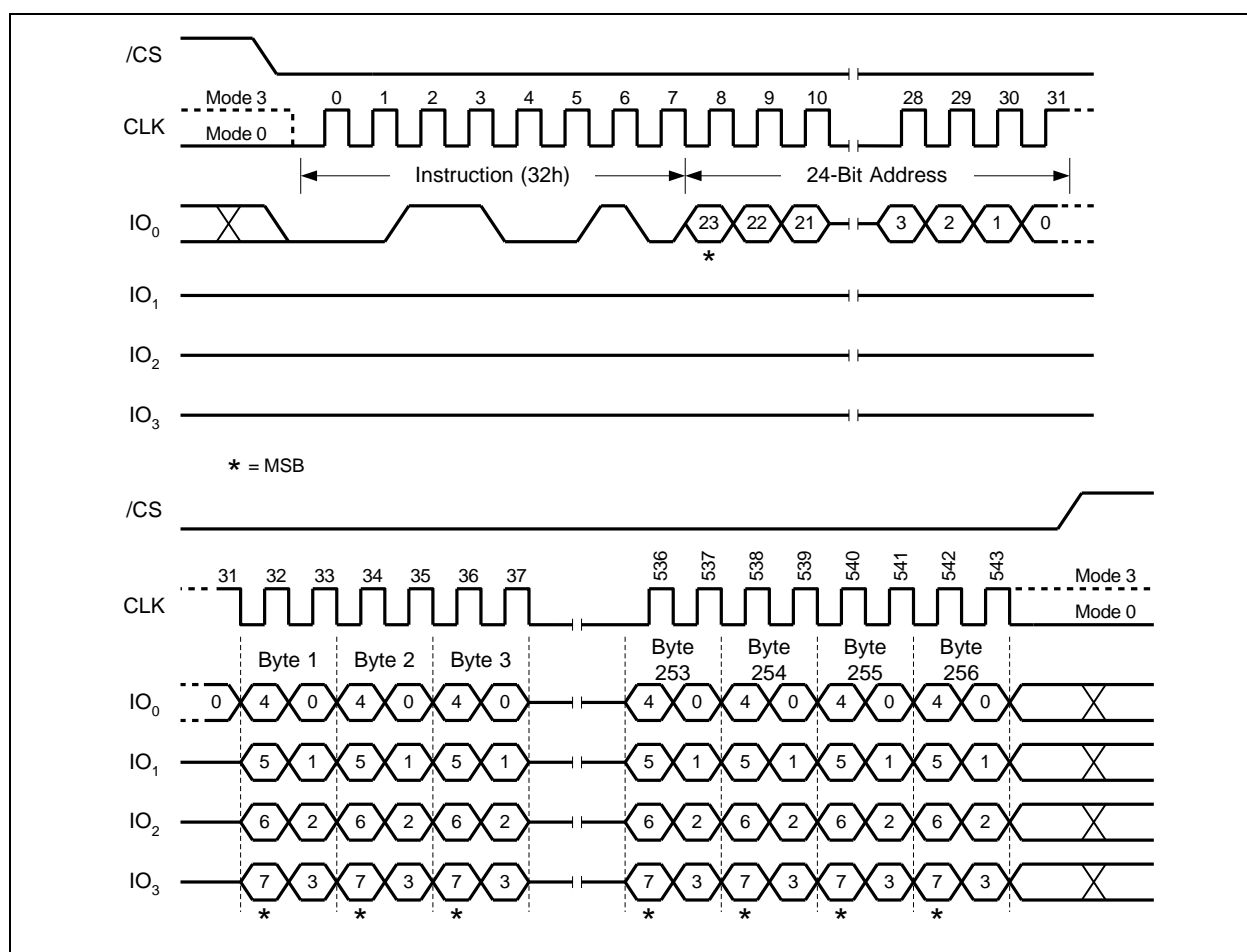

Figure 34. Quad Input Page Program Instruction (SPI Mode only)
To use Quad Page Program the Quad Enable (QE) bit in Status Register-2 must be set to 1. A Write Enable instruction must be executed before the device will accept the Quad Page Program instruction (Status Register-1, WEL=1). The instruction is initiated by driving the /CS pin low then shifting the instruction code "32h" followed by a 24/32-bit address (A23/A31-A0) and at least one data byte, into the IO pins. The /CS pin must be held low for the entire length of the instruction while data is being sent to the device. All other functions of Quad Page Program are identical to standard Page Program. The Quad Page Program instruction sequence is shown in Figure 34.